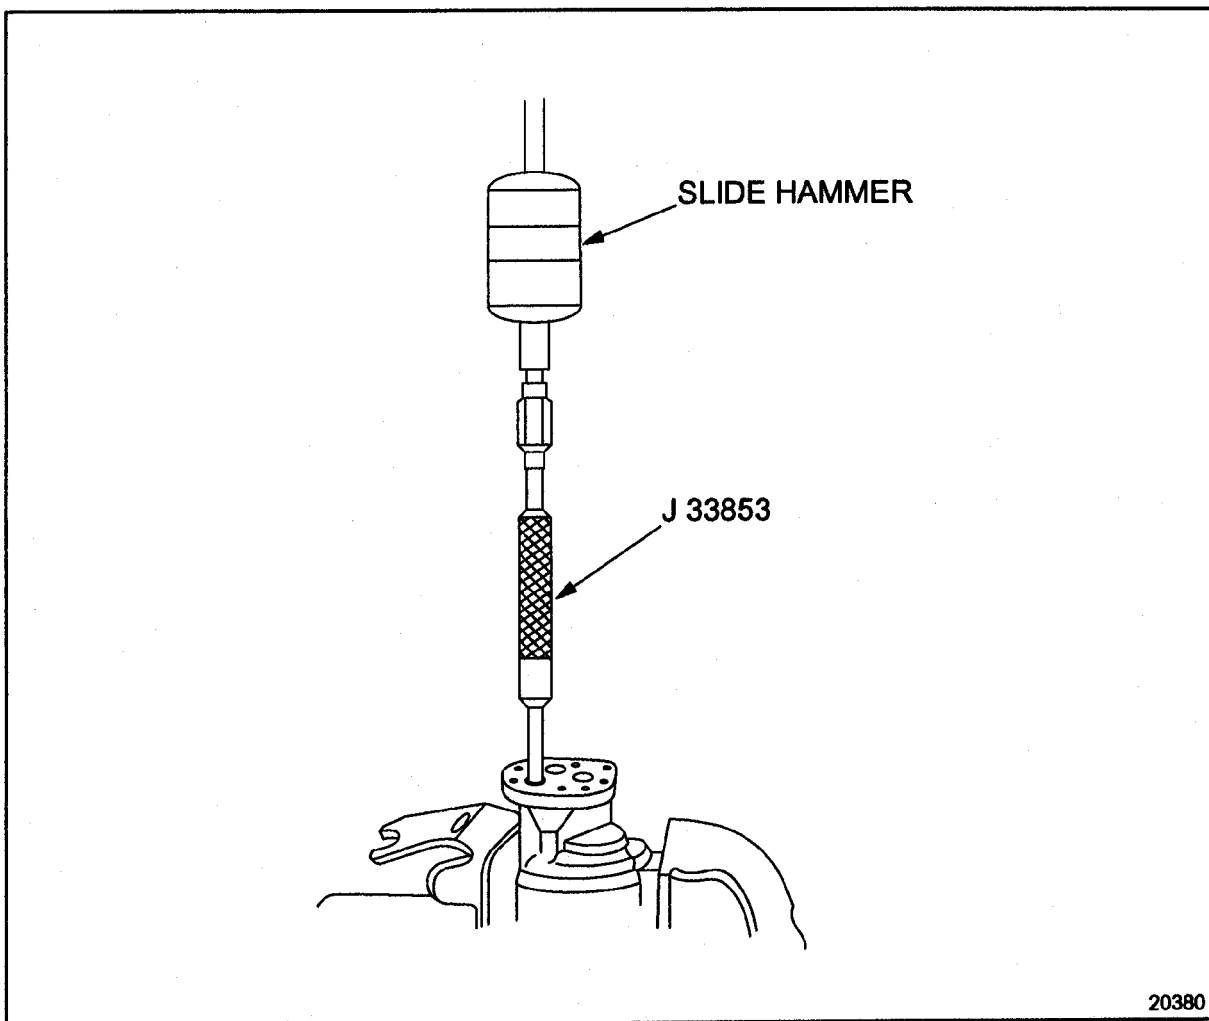

Figure 2-33 Needle Bearing Removal
14. Use needle bearing remover, J 33853, with slide hammer and remove the needle bearing assemblies from the pump body and cover. See Figure 2-33.